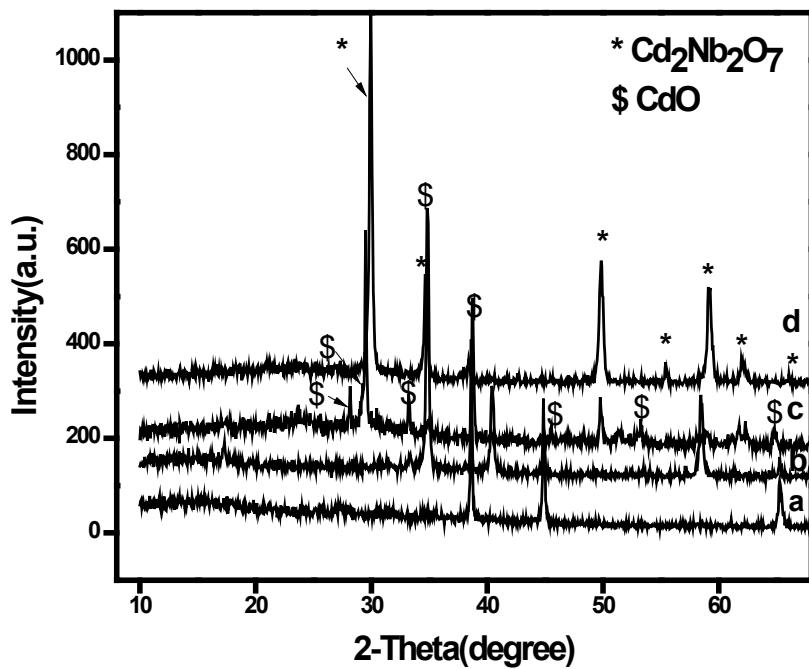

Figure S5
**Figure S5:** XRD patterns of cadmium niobate obtained by hydrothermal method at different temperatures (a) 40°C (b) 80°C (c) 120°C and (d) 180°C for 48h and then calcined at 600°C for 8h (concentration of NaOH, 0.5M)